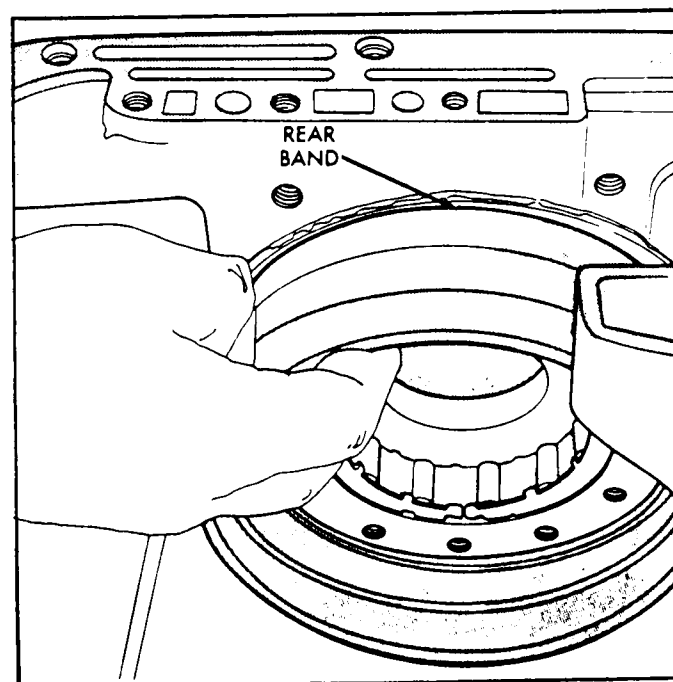

Figure 127
1. Ensure that roller clutch assembly has been installed into the roller clutch cam, as shown in Figure 127.
3. Install rear band in case, as shown in Figure 127, and ensure the twin lugs on band are seated against the reaction pin.